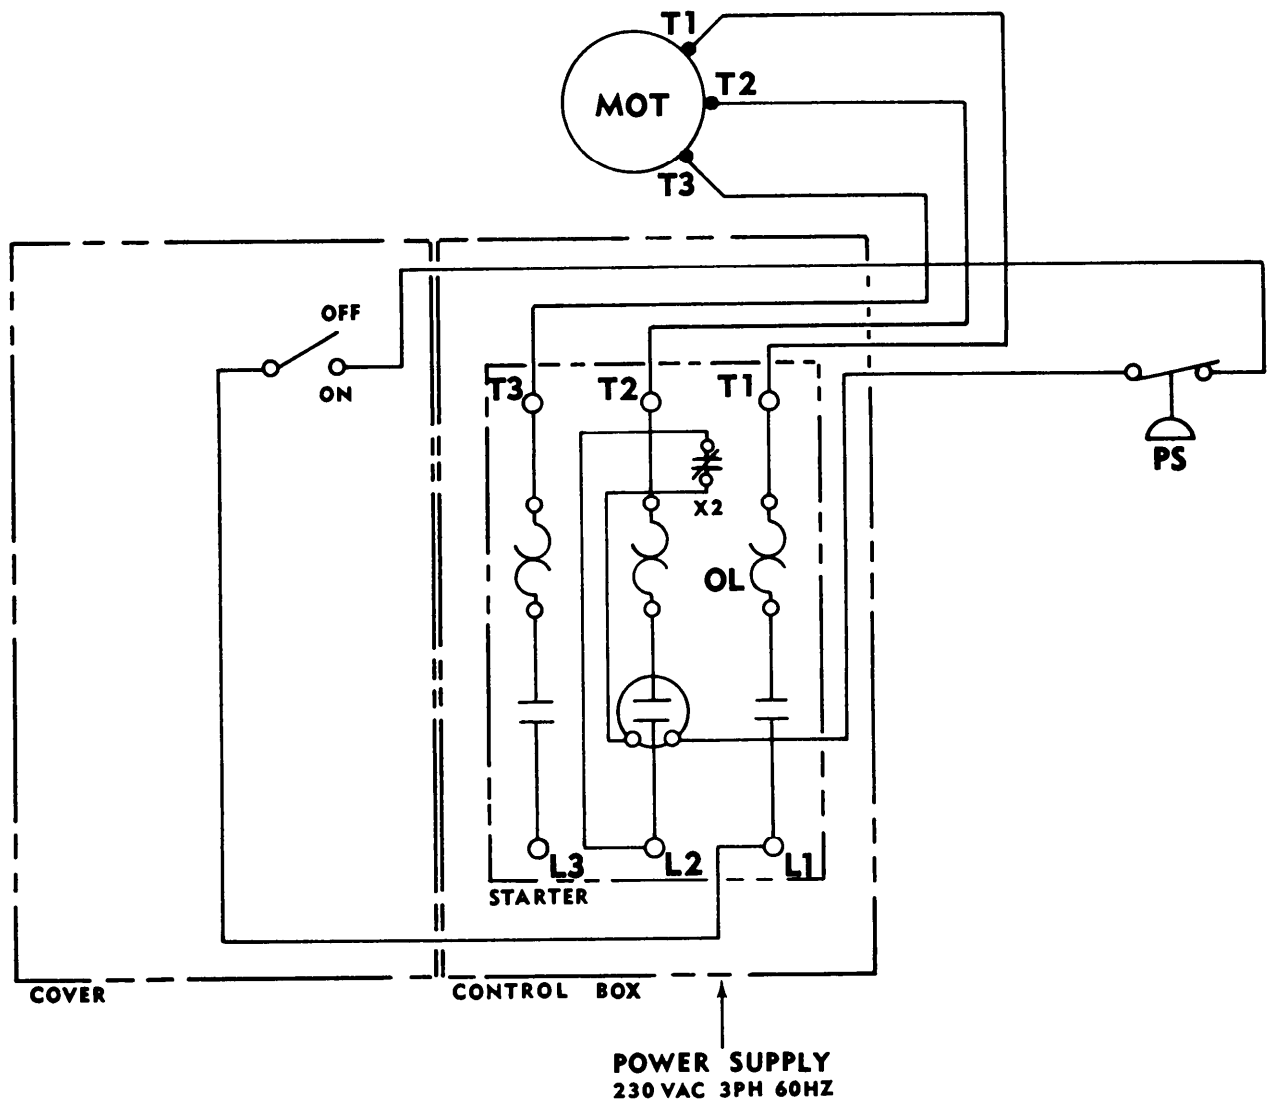

Figure 1-2. Schematic unit wiring diagram
**1-14. Wiring diagram.** Refer to figure 1-2 for schematic unit wiring diagram.